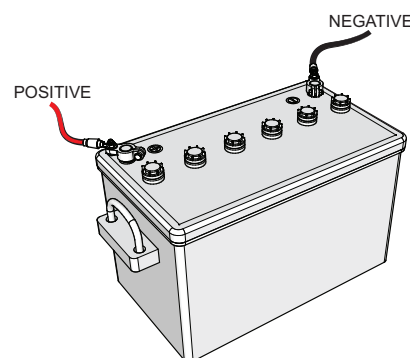

Figure 42. Battery Connections
**ALWAYS** be sure the battery cables (Figure 42) are properly connected to the battery terminals as shown below. The **red cable** is connected to the positive terminal of the battery, and the **black cable** is connected to the negative terminal of the battery.